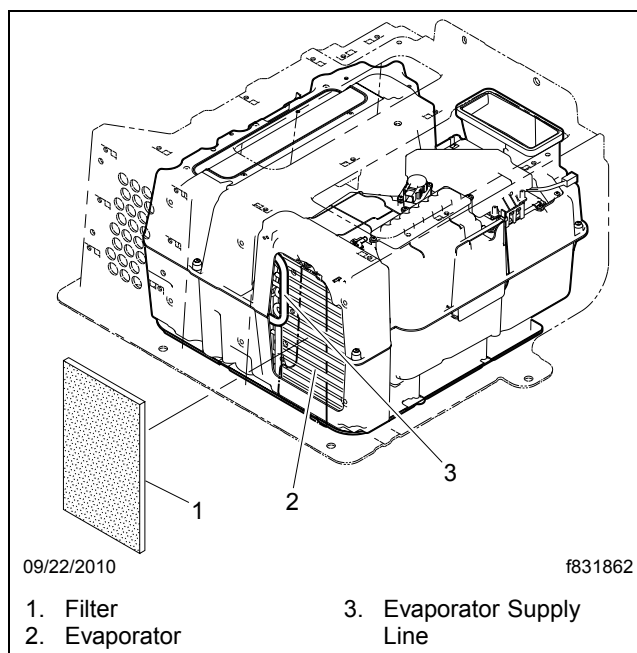

Fig. 26, Evaporator Line Check (cabinet not shown for clarity)
- One check of the refrigerant level is to touch the A/C line leading to the evaporator (it can be accessed from the filter opening without removing the unit). See **Fig. 26**. When the compressor is running this line should be cold and covered in condensation. If this line is not cold, the unit is likely low on refrigerant, or experiencing another refrigerant loop problem. On systems built after July 2011, also check the high side line going to the evaporator to see if it is hot.